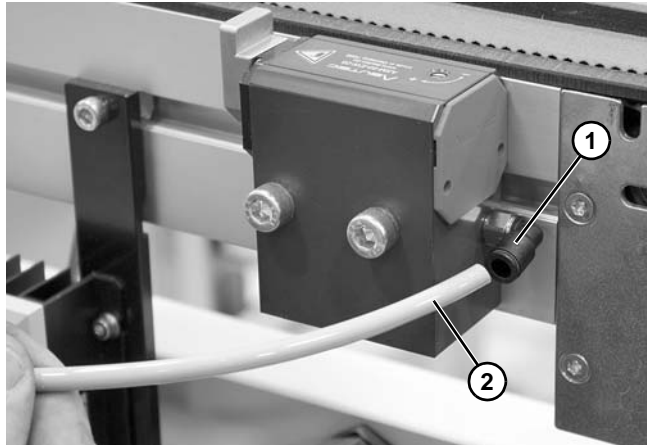

Figure 14
1. Connect the solenoid to the stop. Dorner fittings (**Figure 14, item 1**) accept 1/4" outside diameter tubing standard (**Figure 14, item 2**).